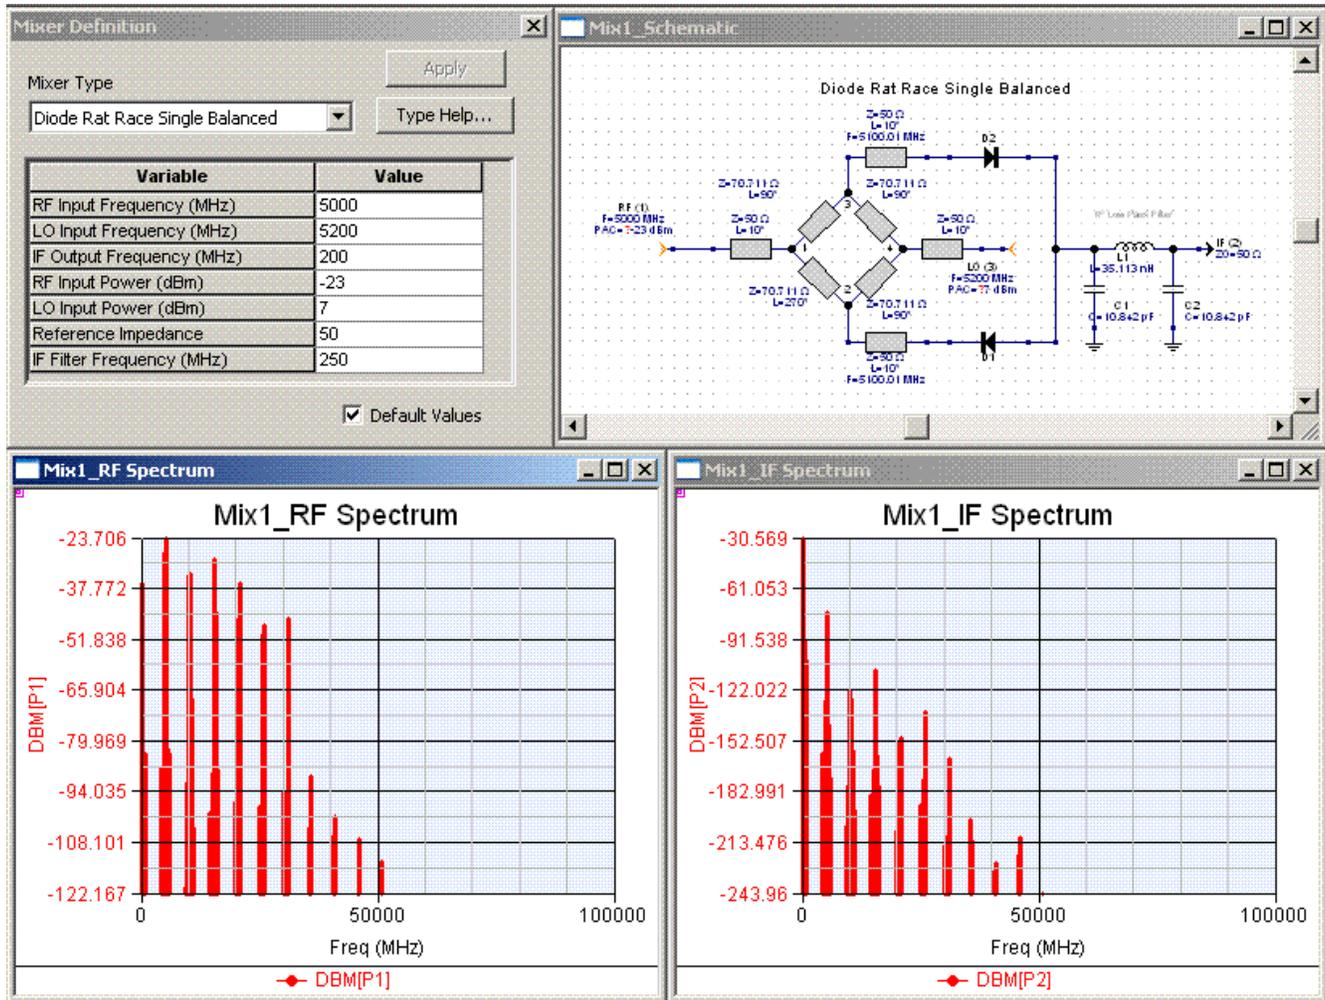
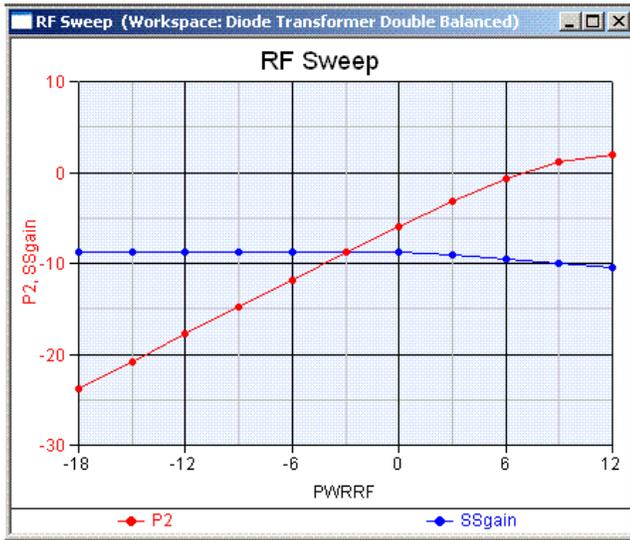

Figure 1. Computer Screen for Mixer Synthesis Module
Figure 2. Sweep of RF Input Power (PWRRF) Resulting in IF Output Power (P2) and Small Signal Gain (SSGain)
The computer screen for a typical mixer synthesis session is shown in Figure 1. Notice that the mixer synthesis dialog box is simple, consisting of only a single page. The user can select from among the 11 mixer types. They include simple diode types, complex configurations with active devices such as bipolar or field effect (FET) transistors, and circuits which include transformers. Most of the most common topologies are represented. Unlike other GENESYS synthesis products, the mixer is essentially a nonlinear element. Therefore, each mixer must have either a passive (e.g. diode) or active (i.e. transistor) nonlinear element, and the design environment must include a nonlinear analysis engine. In this mechanization, a Harmonic Balance simulator (HARBEC) is available in the GENESYS suite of analysis modules. In Figure 1, notice that the dialog box includes the required set of input parameters for the particular mixer topology chosen. In the case of the “diode rat race single balanced mixer” shown, this includes both the common parameters (e.g. the frequencies of the input RF signal, the local oscillator signal (LO), and the IF output signal), but also the filter frequency for the IF filter. The program does error checking to assure that the 3 frequencies define a consistent set, i.e. the IF frequency is either the sum or difference between the RF and LO frequencies. Again, since this is a nonlinear process, the power levels for the RF and LO inputs must be defined. Notice the check box labeled “Default Values”. If the user checks this box, the factory settings for all the parameters will be used. These are the values used in the examples in the HELP files. This allows the user to duplicate the results presented in these files. If the user modifies any of the input parameters, this box automatically becomes un-checked.
The simulation automatically generates plots of the power spectrums at the RF and IF ports (Figure 1). These graphs can be used to determine the conversion gain and the isolation between various ports. Also notice the levels of the spurious signals or “intermods” generated by the nonlinear element. In addition, the synthesis program will generate sweeps of RF and LO power. The resulting plots are used to determine the saturation level for the RF input and the desired LO drive level, respectively. These plots are shown as Figures 2 and 3, respectively.